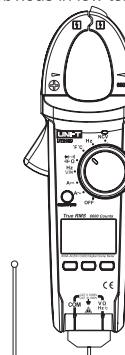

Fig. 6
5. Measurement of temperature (shown as Fig. 6)